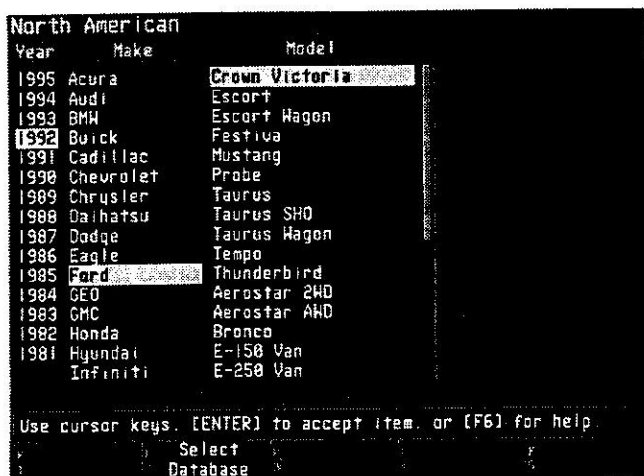

Figure 1-19
4. A list of vehicle models will now pop-up (see Figure 1-19). Use the Arrow Keys to move through the list. Highlight the correct model and press [ENTER].